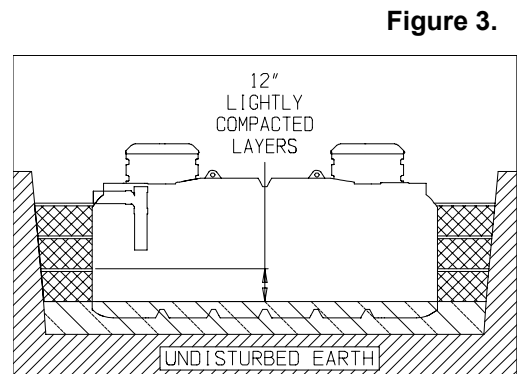

Figure 3.
4. Backfilling Exterior [Figure 3 & 4]
- Backfill around the perimeter of the tank in 12" layers.** Lightly compact each layer. NEVER BACKFILL ON ONE SIDE ONLY. BACKFILL ALL OF THE OUTLINE OF THE SEPTIC TANK UNIFORMLY IN 12" LAYERS. [Figure 3].